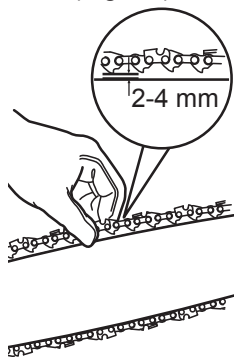

Fig. 15
- > Check the chain tension using one hand to lift the saw chain (3) against the weight of the product. The correct chain tension is achieved when the saw chain can be lifted by approximately 2 - 4 mm from the guide bar (4) in the centre (Fig. 15).